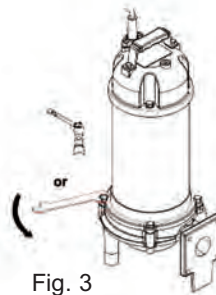

Fig. 3
- 6) Remove the screws on the volute (Fig 3) dismantle the volute and use flat-head screwdriver to raise impeller slightly and remove from the shaft. (Fig 5)